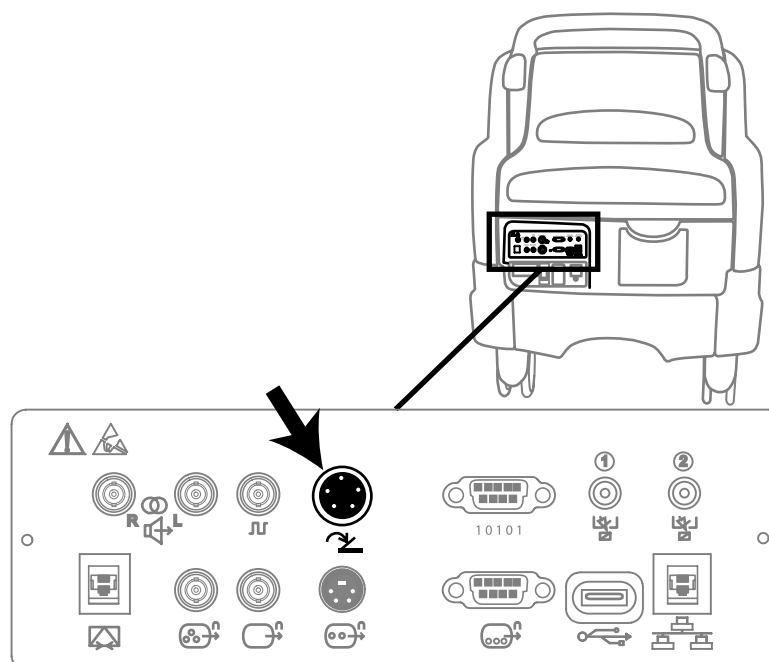

Figure 1-10: The Footswitch connector on the External I/O Panel
1. Connect the footswitch to the input marked  on the External I/O panel (see Figure 1-10).